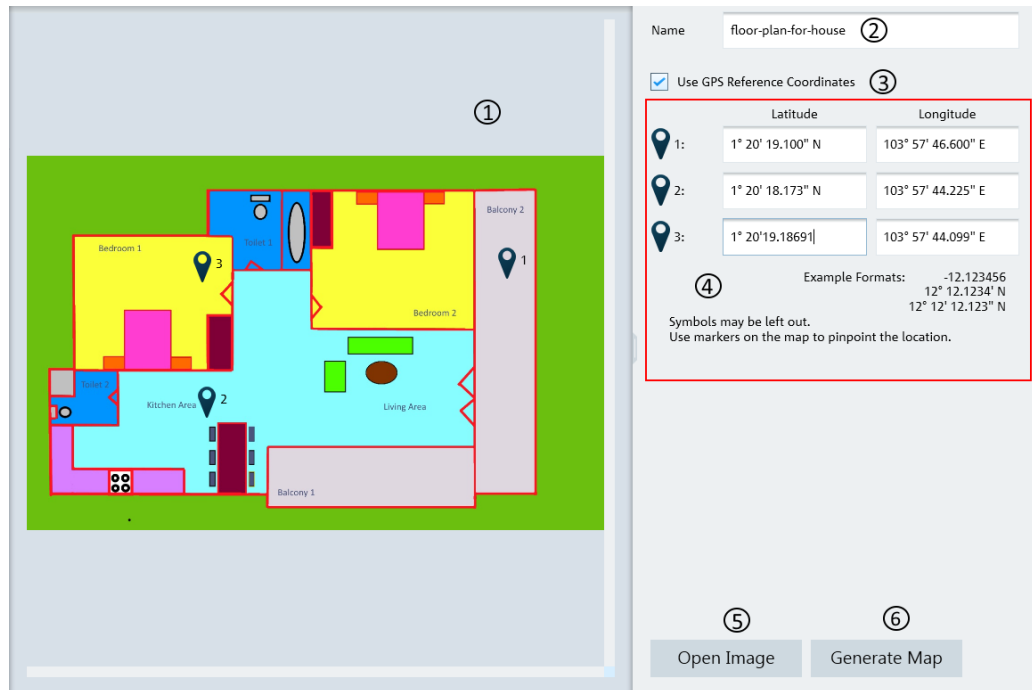

Figure 4-35: Map creator dialog box
In addition to creating a map, you can also specify the exact geographical location of the area you are measuring. To do so, you can specify three GPS reference points in the entry field (see item 4 of Figure 4-35). With a GPS referenced map, it provides the following useful features: